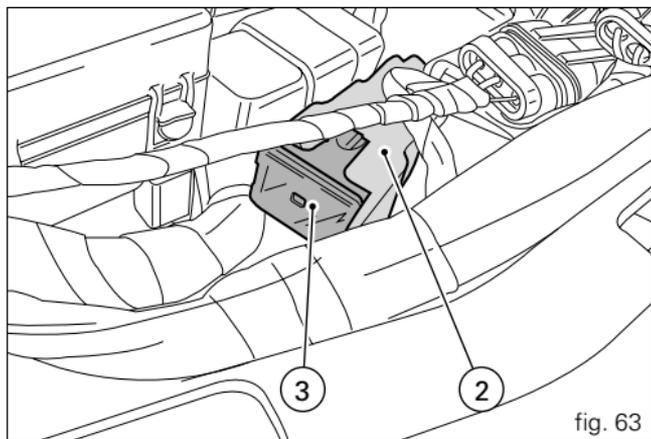

fig. 63
The 40A (single seat) / 30A (dual seat) fuse (2) on the side of the fusebox (fig. 63) protects the electronic voltage regulator.